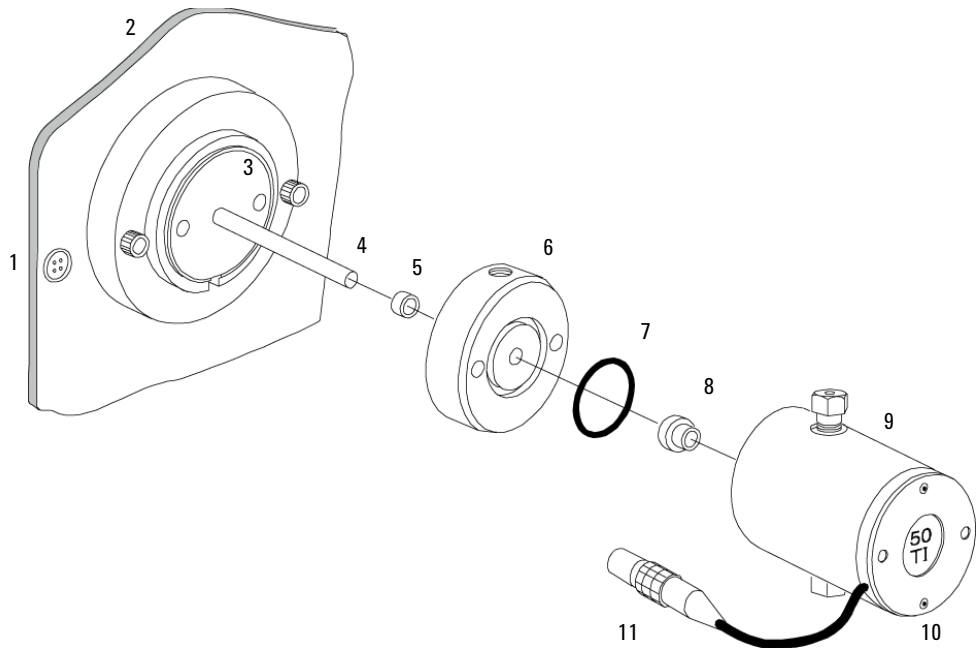

Figure 37 Pump head exploded view
- 5 Align the pump head so that the slot at the bottom is lined up with its matching slot in the housing on the front panel (see Figure 37 on page 87).
- 5** Align the pump head so that the slot at the bottom is lined up with its matching slot in the housing on the front panel (see Figure 37 on page 87).